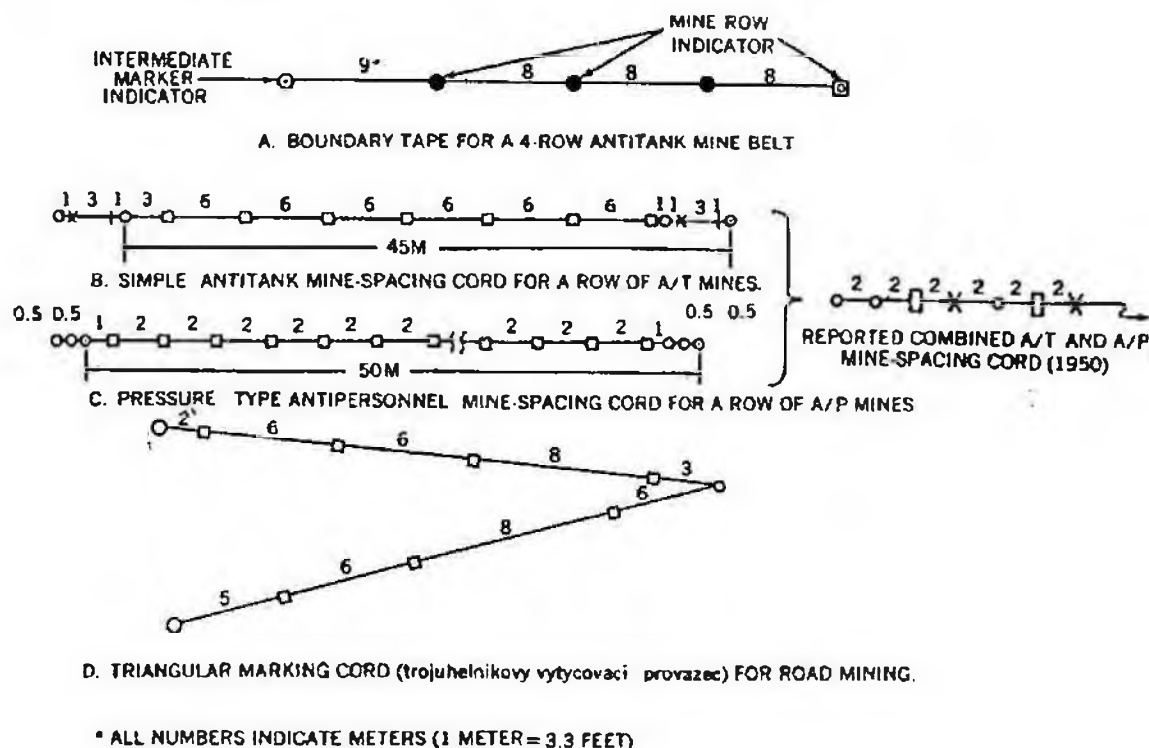

Figure 7-22. Mine laying and spacing cords (Czechoslovakia).
establish the boundary of a section of a hasty antitank minefield (A, fig. 7-22). The indicator, spaced 9 meters from the first ring, is placed at the intermediate marker or reference stake and the cord is stretched out toward the enemy. The rings and the other indicator mark the location of the beginning of each row of mines.
b. Simple Antitank Mine-Spacing Cord. This cord is 50 meters long with black markers (for locating the position of antitank mines). These are spaced 6 meters apart, other markers are spaced at varying distances from each end of the cord (B, fig. 7-22). When used, the O, X, □, or 0 is placed on the row marker of the boundary tape and the cord is stretched out perpendicular to it. Mines are laid at the 6-meter interval markers. A staggered pattern may be made by placing a different indicator in succeeding boundary tape row markers.
antipersonnel mines (PP-Mi-D) in the same manner as that of the cord discussed in *b* above (C, fig. 7-22).
e. Triangular Marking Cord for Road Mining. This device is used for the rapid irregular spacing of mines in a road during withdrawal operation (D, fig. 7-22). It permits quick relocation of the